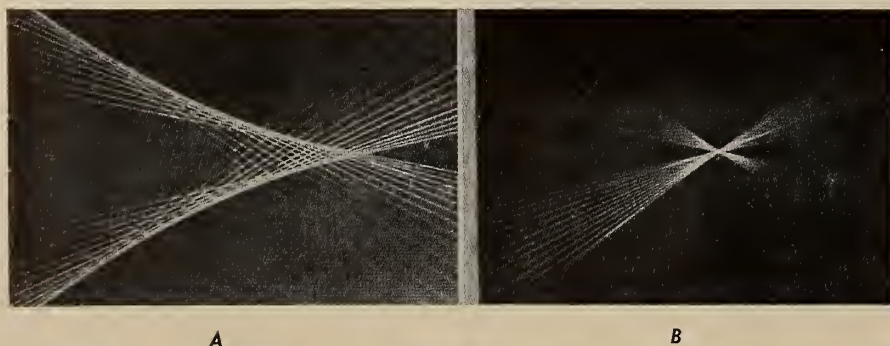

FIG. 5. The influence of a correction plate on the passage of rays reflected from a spherical hollow mirror.
Figure 4 shows diagrammatically how the correction plate in its ultimate form causes the rays of a parallel beam to converge upon one point after reflection from a hollow mirror. The effect of the correction plate is also seen from Fig. 5, likewise relating to a pencil of parallel rays reflected by a hollow mirror. In Fig. 5 (A) there is spherical aberration; while in Fig. 5 (B) this has been eliminated by the correction plate.